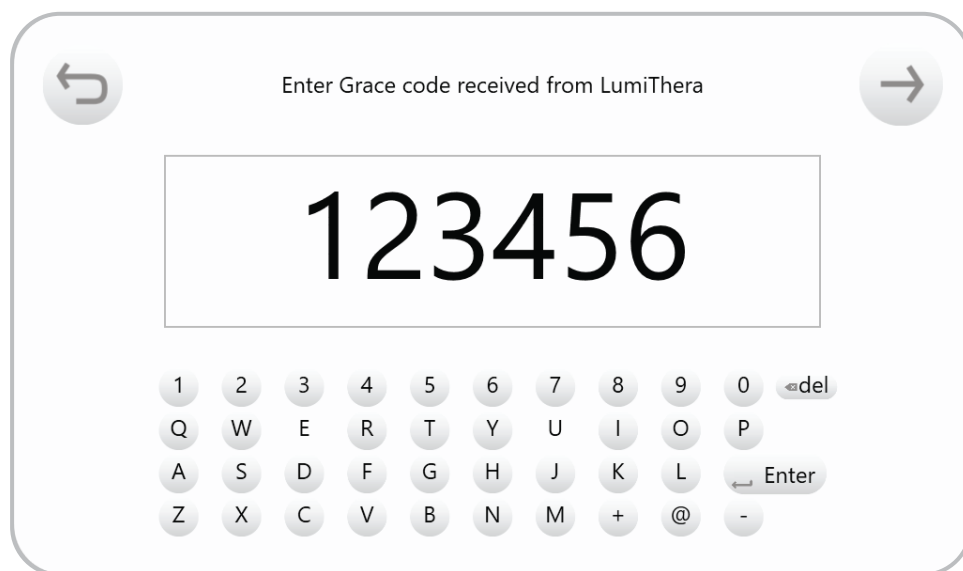

FIGURE 21
- Enter the code into Valeda and press the “Continue”  button to proceed (Figure 21).